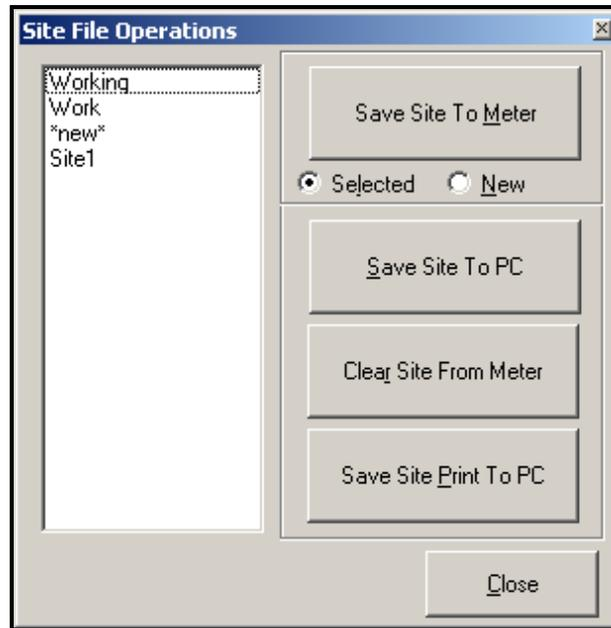

Figure C-14: Site File Operations Window
To access site files, click on the *Site Files* button in the *Properties* window. The *Site File Operations* window (shown in Figure C-14 below) opens.
3. The *Site File Selection* window (Figure C-14 on page C-12) opens. Highlight a site with the desired settings, and click [Open]. PanaView saves the site in the meter with the new name and the desired settings.
1. Highlight the desired site in the left pane. (See Figure C-14 on page C-12.)
3. The *Site File Selection* window (Figure C-14 on page C-12) opens. Enter the desired site name (now with a .prt suffix) and click [Save]. PanaView displays a text version of the site, as shown in Figure C-17 below.